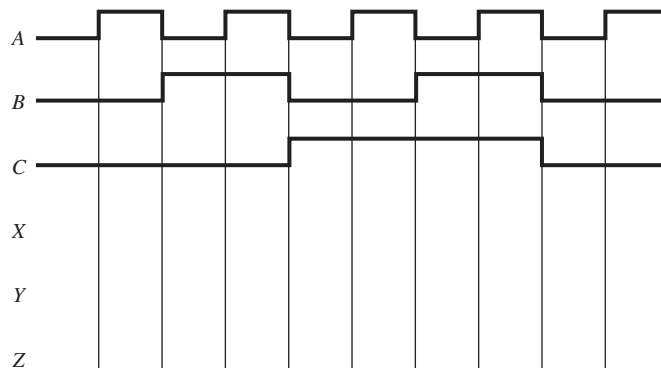

Figure P5-28
- 5-28. Complete the timing diagram in Figure P5-28 for the following simplified Boolean equations.